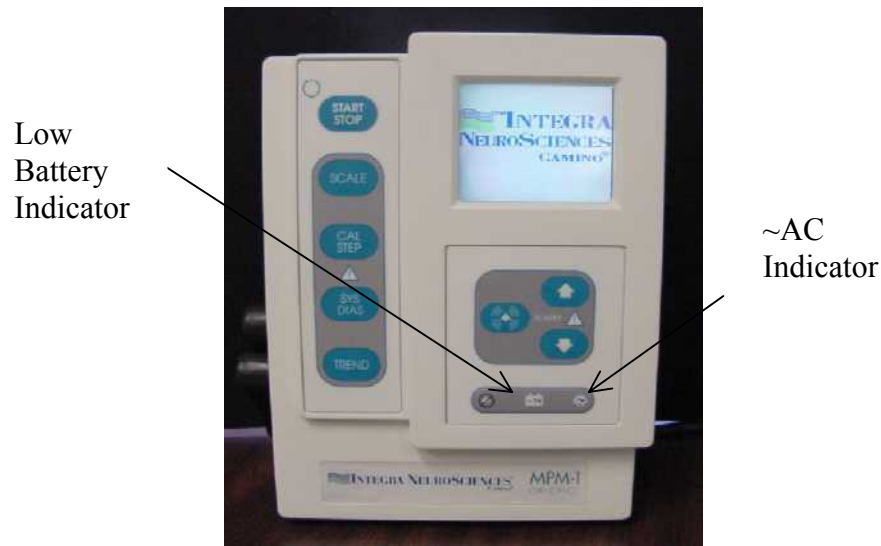

Figure 3-1 Front Panel Power Indicators
2. Check that the ~AC indicator is illuminated (Figure 3-1).